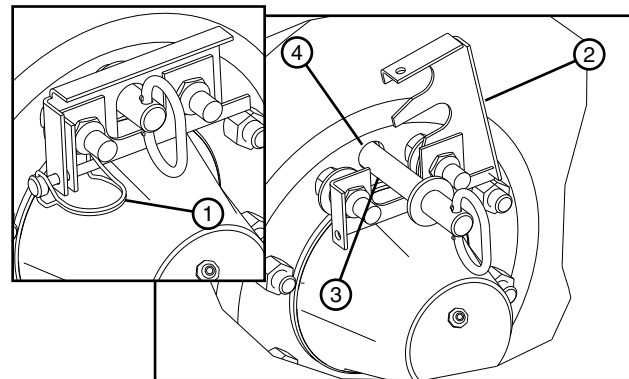

Figure 74-2 1. Lynch Pin 2. Retainer Clip 3. Torque Pin 4. Hub Torque Pin Receiver
4. Remove the torque pin from the hub torque pin receiver of both cart wheels. This will allow both wheels to rotate. See figure 74-2.
5. Tie the machine to the anchor with a load binder attached to one of the short chains on the drive unit depending on the direction the machine will be rotated. See figures 74-2.